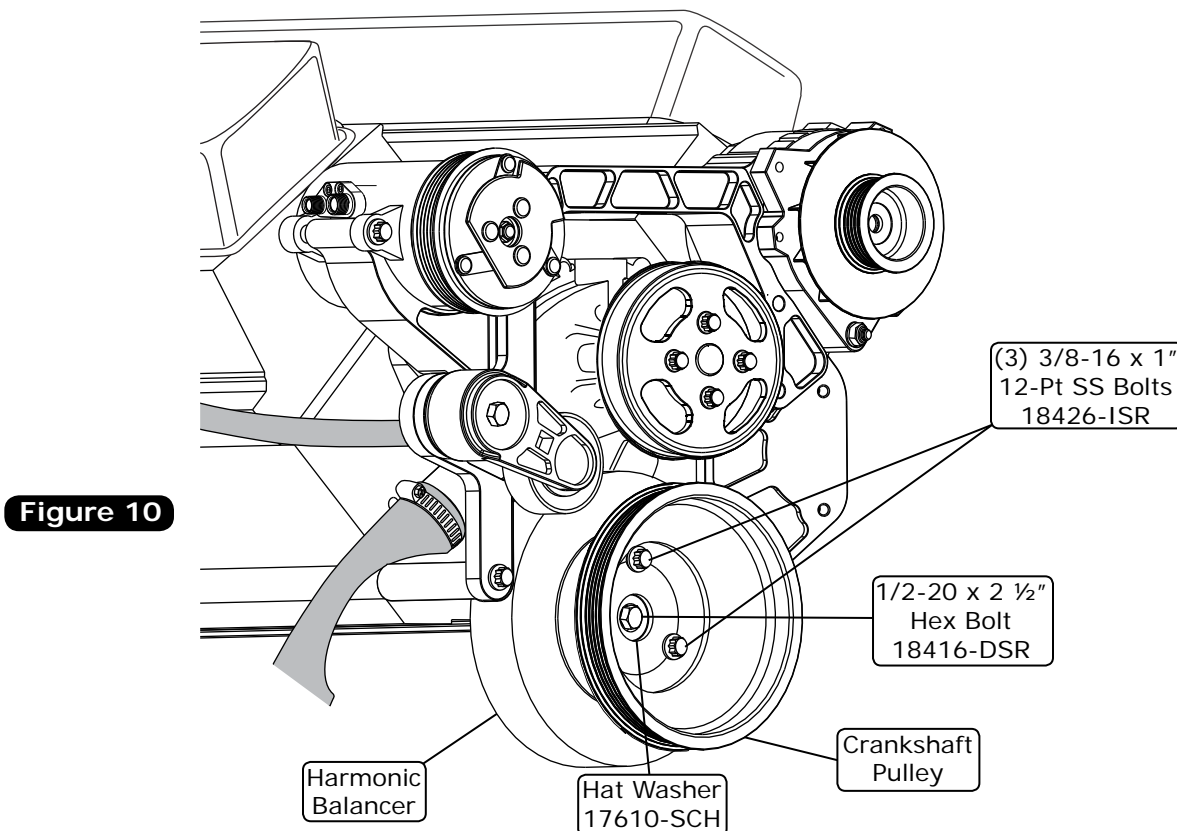

Figure 10
1. Install the crankshaft pulley onto the harmonic balancer using (3) 3/8-16 x 1" 12-Pt SS bolts. Torque to 25 lb ft. Secure the crankshaft pulley to the crankshaft snout with a hat washer and a 1/2-20 x 2 1/2" hex bolt (See Figure 10, below). Torque to 85 lb ft.